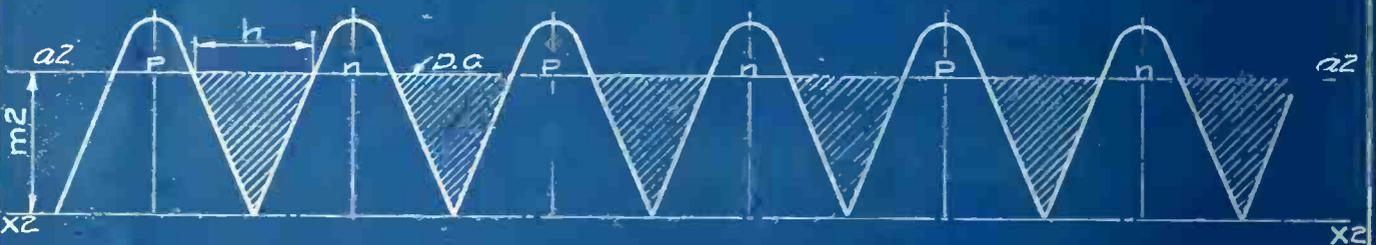

FIG. 3
Full-wave or "Two wave" rectification is shown in Fig. 3. In this case the positive waves (P) are allowed to pass freely through the rectifier as before, but instead of suppressing the negative waves they are turned up by an independent rectifier and made positive waves. The converted negative waves (n-n-n) are then inserted between the positive waves so that we now have twice the energy that we had in the half-wave system, and further, the application of the energy is more uniform with correspondingly less demand on the filter system. With an equal amount of filter inertia, indicated by the shaded